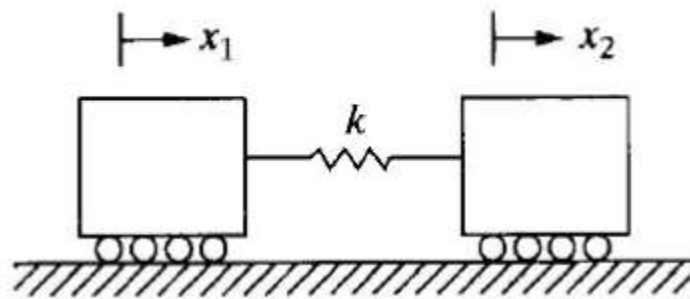

Fig.1
- b) Fig.1 shows a two rail road cars of mass 10 tonnes each. They are coupled by springs of total stiffness 2.94×10^6 N/m. How many natural frequencies does this system have? Find their values.